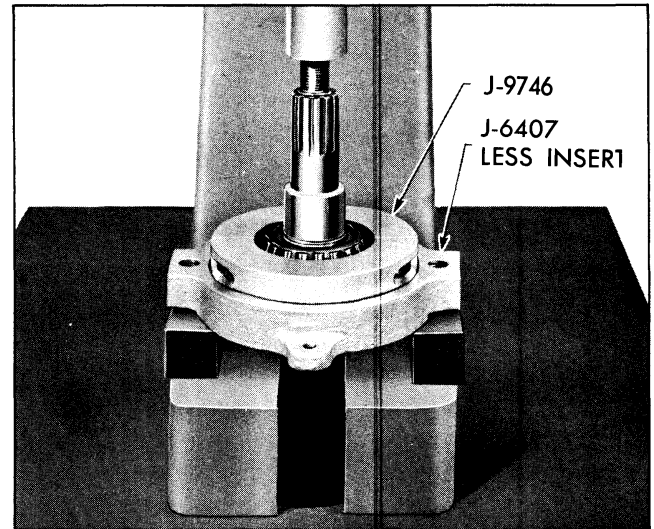

Fig. 4-41 Removing Rear Bearing with J-9746 and Press Plate J-6407 Less Insert
25. To remove pinion rear bearing from pinion stem, place bearing remover J-9746 and press plate holder J-6407, less insert, between bearing and pinion gear (Fig. 4-41).